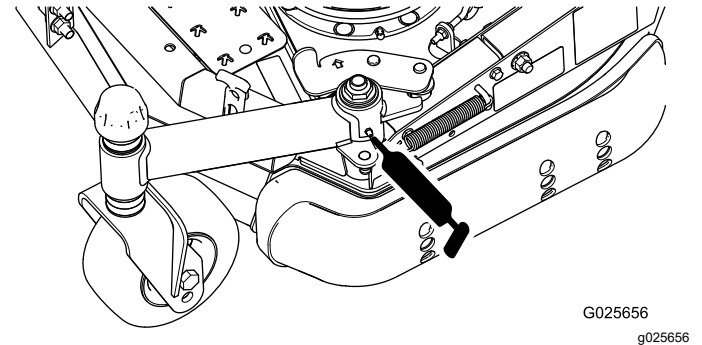

Figure 15
- Folding castor arm pivot (1) (Figure 15)